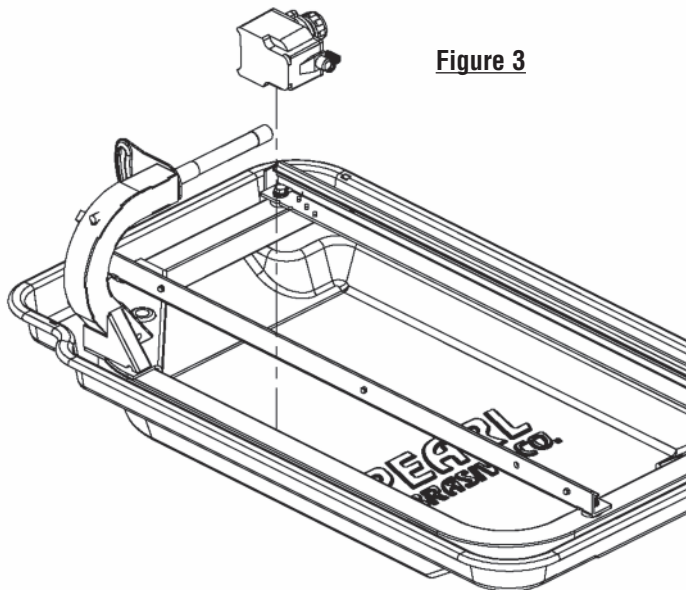

Figure 3
2. Slide the pump onto the U-shaped bracket located at the bottom of the frame. The pump should be oriented such that the water outlet is horizontal. See Figure 3